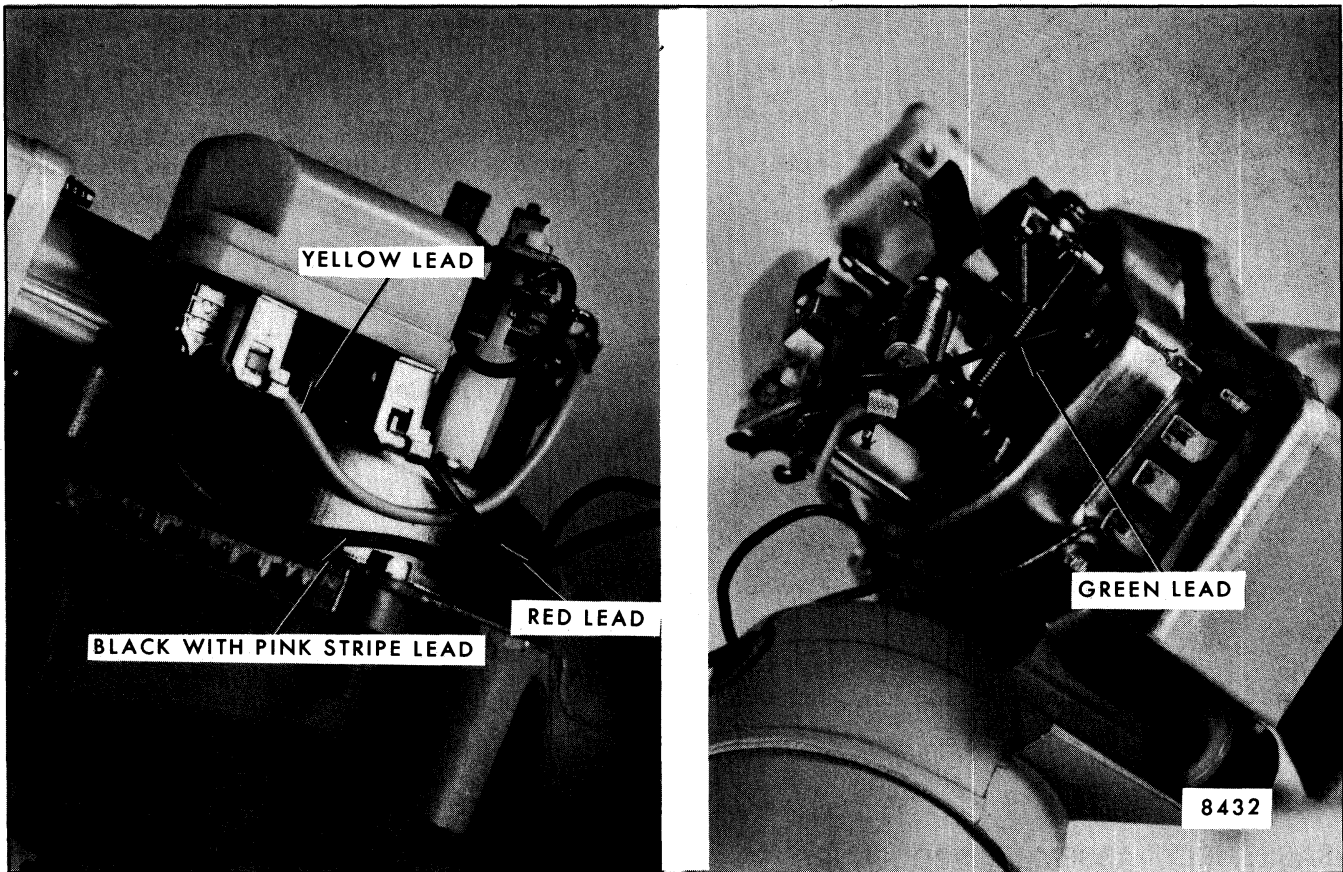
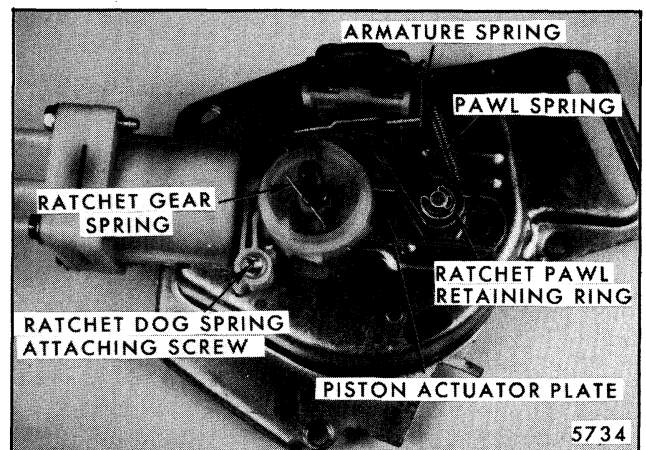

Fig. 2-132-Modified Pulse Relay Terminals and Leads
Fig. 2-136-Ratchet Pawl
3. Disconnect the green lead from terminal 1A, red and black with pink stripe leads from pulse relay terminals (Fig. 2-132).
4. Route and attach the red, green and black with pink stripe leads as shown in Figure 2-132.
- d. Reconnect red and yellow leads to appropriate pulse relay terminals (Fig. 2-132).
- a. Follow step a under item 3.
- b. Remove dog spring assembly (Fig. 2-136).
- c. Remove ratchet pawl retaining ring, disconnect pawl spring and slide pawl off cam-follower shaft (Fig. 2-136).
- d. Disconnect relay armature spring and remove armature (Fig. 2-136).